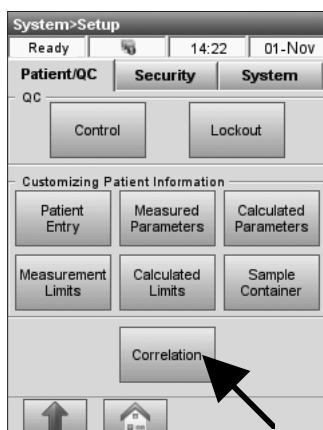

Fig. 3-47 Select Correlation
2. On the **<Patient/QC>** tab, press **<Correlation>** (Fig. 3-47).